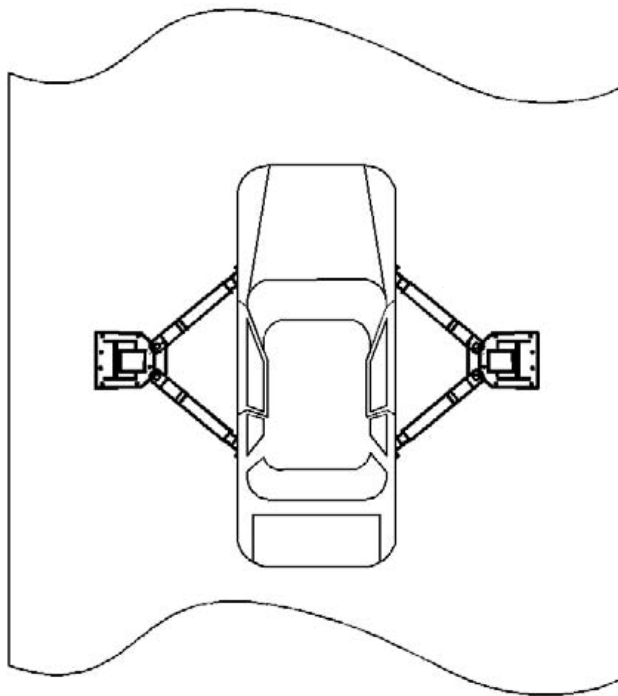

Figure 3-3. Positioning Lift Arms
- 1 Position the lift arms as shown in figure 3-3. Make sure the lifting pads are in a proper and safe position to support the vehicle.